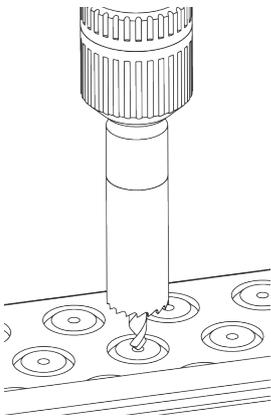

Figure 15: Cutting Cable Entry Holes
- If the panel is being wall mounted then cut out the required number of cable entry holes in the back using a 20mm hole saw with pilot drill bit, see Figure 15.